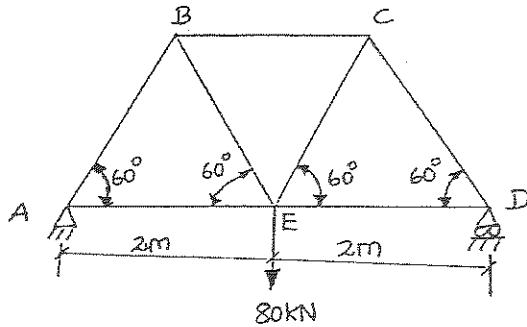

Fig. Q16 (a)
16. (a) Determine the vertical displacement of joint E of truss shown in Fig. Q16 (a) due to given loading and due to member BE and CE being 10 mm too long. Given, for all members cross sectional area =  $1000 \text{ mm}^2$ , Young's modulus = 200 kN/mm $^2$ .